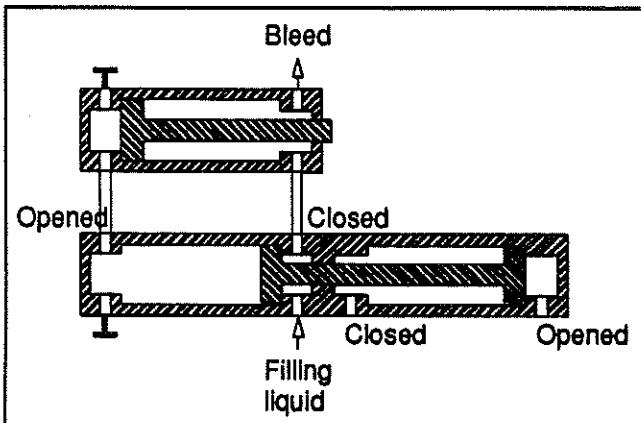

Fig. 5 - Door opened manually
9. Open the drain cock on the door cylinder and the filling cock on the master cylinder piston side. See figure 5.